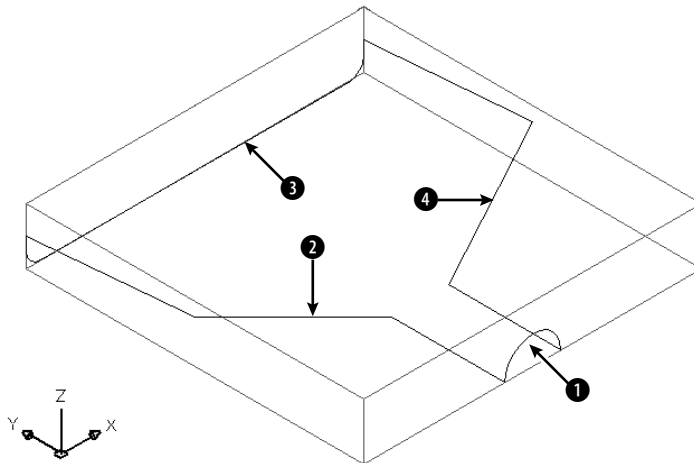

**Figure 23-39:** The four curves are the basis for creating an edge surface.
2. Save it as **ab23-07.dwg** in your AutoCAD Bible folder. You see four curves in a bounding box, as shown in Figure 23-39. In this exercise, you use the curves to draw a dustpan.
4. Enter **edgesurf** on the command line or in the Dynamic Input interface. At the prompts, select **1**, **2**, **3**, and **4** in Figure 23-39.